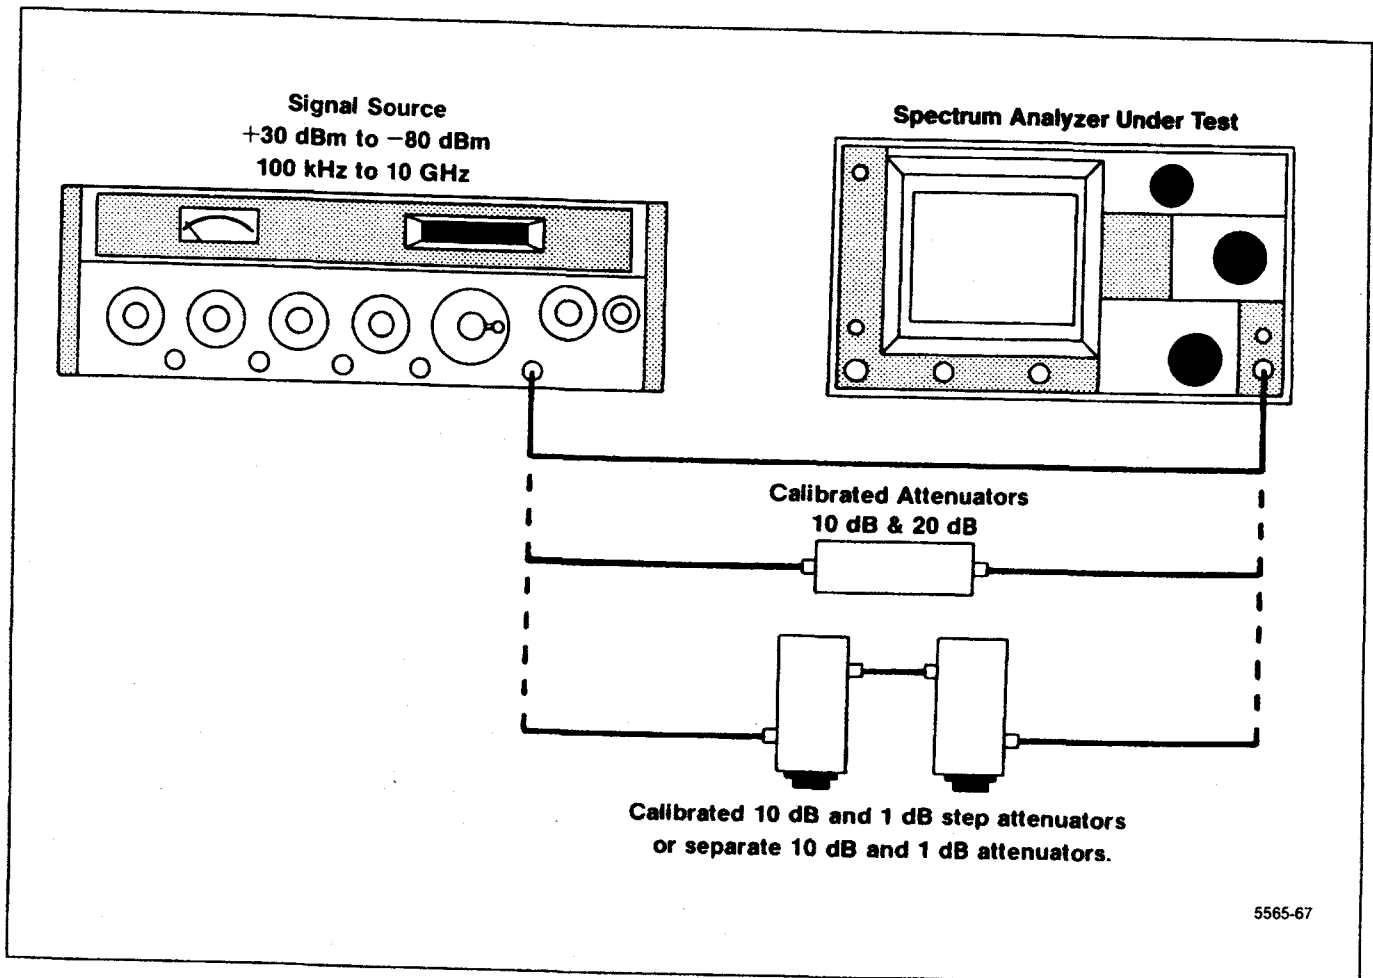

Figure 4-13. Test equipment setup for checking dynamic range and accuracy, and preselector image rejection.
a. Connect the test equipment as shown in Figure 4-13, using the 10 dB and 1 dB step attenuators. Set the Spectrum Analyzer controls as follows:
a. Connect the test equipment as shown in Figure 4-13, omitting the step attenuators. Set the Spectrum Analyzer controls as follows: